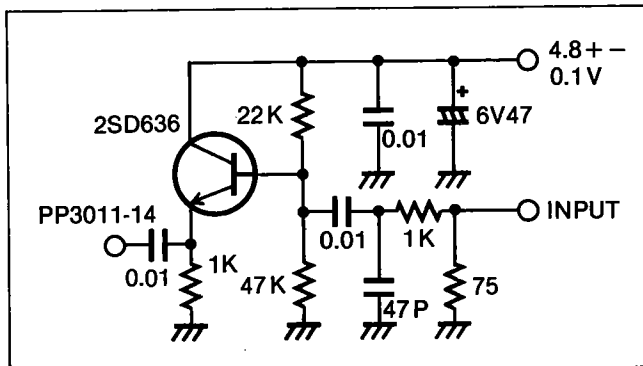

Figure E9
1. Connect the Service Circuit as shown in Figure E9.